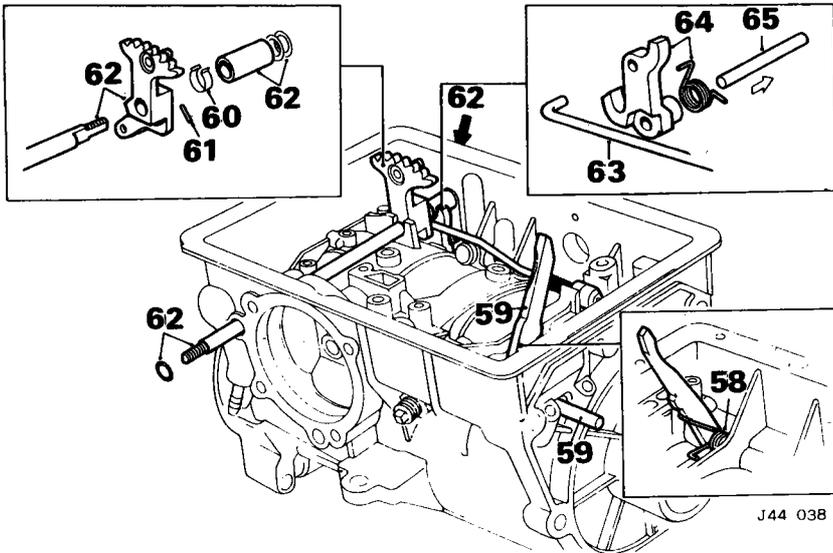

Fig. 37
- 58. Note the fitted position of the parking pawl torsion spring; release the spring from the pawl (Fig. 37).
- 59. Withdraw the parking pawl pivot pin, collect the pawl and torsion spring (Fig. 37).
- 60. Release the clip locating manual valve lever (Fig. 37).
- 61. Withdraw the pin locating the manual valve lever (Fig. 37).
- 62. Withdraw detent shaft, collect manual valve lever, spacer and plain washers; remove and discard 'O' ring and oil seal (Fig. 37).
- 63. Release parking brake rod assembly from parking pawl (Fig. 37).
- 64. Note fitted position of parking brake rod operating lever and torsion spring, release spring from lever (Fig. 37).
- 65. Using suitable punch, drive out operating lever pivot pin; withdraw lever and spring (Fig. 37).